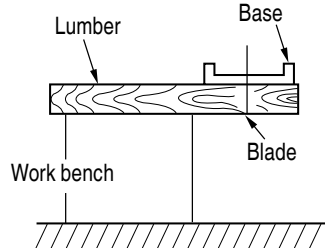

Fig. 11
14. Prepare a work bench (Fig. 11)
- (1) Loosen the base bolt by hexagonal bar wrench attached on base and move the base fully forward. (Fig. 11)